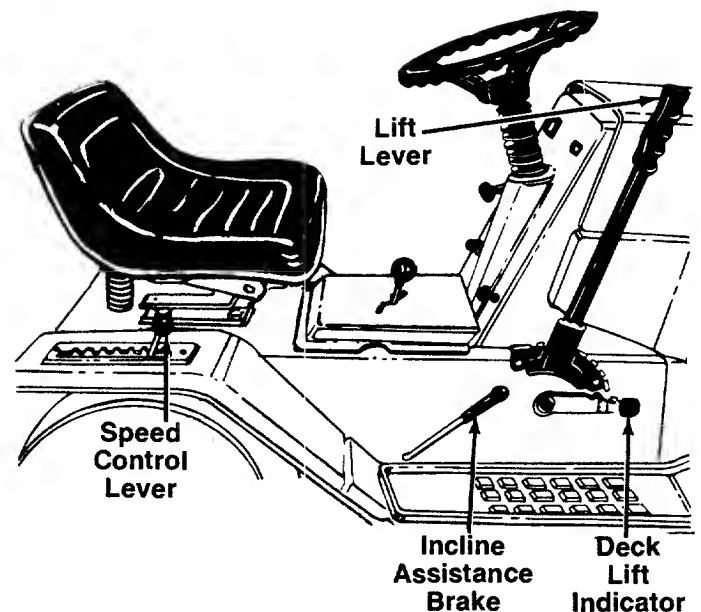

FIGURE 12.
The speed control lever is located on the right fender. It allows you to regulate the ground speed of the lawn tractor. See figure 12. To select the ground speed, depress clutch pedal. Push speed control lever outward and move backward to slow lawn tractor, move forward to increase speed. When desired speed has been obtained, release lever in that position. Whenever clutch is engaged, unit will automatically go to the pre-set speed.
When stopping on a hill, hold the incline assistance brake lever back while you release the clutch-brake pedal until the lawn tractor begins to move, then release the lever. This lever permits smoother starts and clutch engagement by holding the tractor during the brake release/clutch engagement operation. See figure 12.
The deck lift indicator marks the position being used for the lift lever. Select the lift lever position desired, press the indicator lever outward, move it to the position immediately below the lift lever and release the indicator lever. See figure 12.
3. Place the lift lever in the DISENGAGED position. See figure 12.